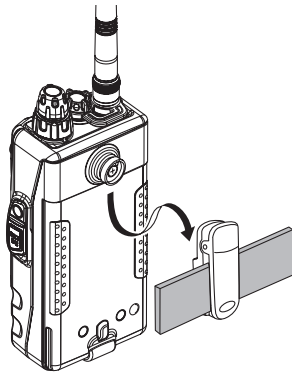

Fig 3
- To install the **FTA-310** into the Quick-Draw Belt Clip, align the hanger with the Quick-Draw Belt Clip, and slide the **FTA-310** into its slot until a click is heard (Fig 3).